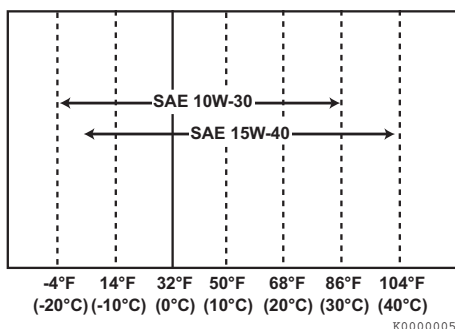

Figure 5
- Select the oil viscosity based on the ambient temperature where the engine is being operated. See the SAE Service Grade Viscosity Chart (**Figure 5**).